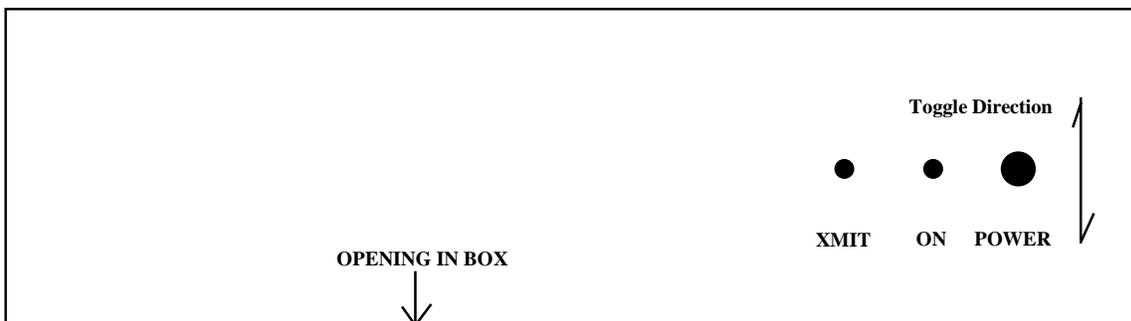

Figure 5 Switch / LED Mounting Positions
- Place both the "ON" LED and the XMIT LED in their corresponding wall mounting hole (see Figure 5). Place the previously formed lead on a ground via hole at the edge of board and solder.